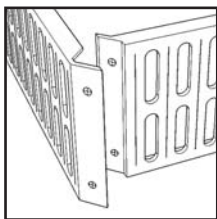

Figure 1
Attach Legs (B) to Side Frames (C) and Side Frames (D) with Flat Washers, Spring Washers, Nuts and Nut Caps. (See Figure 1 and Figure 2)